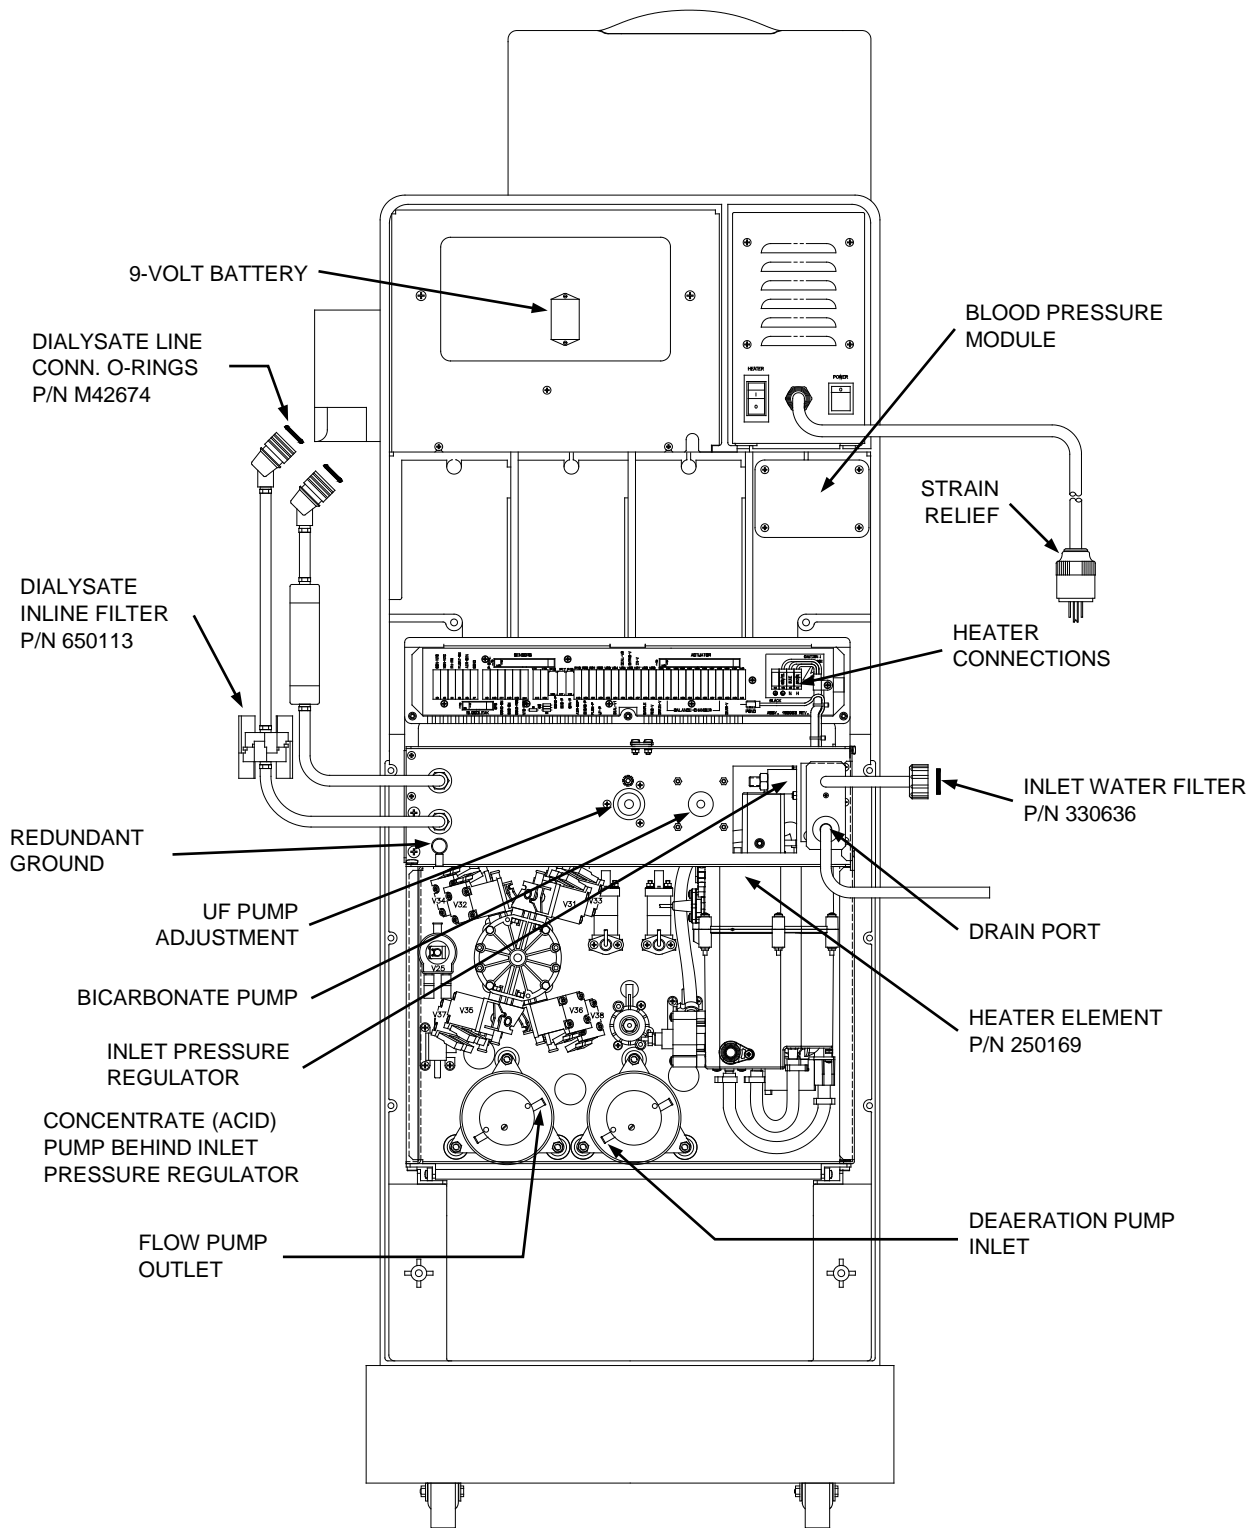

Figure 2. 2008T Hemodialysis System, Rear View.
1. Inlet Water Filter in the inlet connector of the water supply (See Figure 2, pg. 9).
3. Clean the Dialysate Inline filter (See Figure 2, pg. 9).
1. Remove power from the machine then check and tighten the 8-pin heater connections next to the distribution board (See Figure 2, pg. 9). Check heater block AC connections for signs of arcing or melting.
5. At the strain relief, locate the black, white and green wires from the power cord (inside the power supply chassis). Follow the black and white wires to the main power switch. Attached to the main power switch are four (4) wires (2 black and 2 white). Look for loose connections, cracked insulation, and signs of overheating, such as discolored or melted insulation. Replace wires with Power Supply Wire Kit (part number 190411).
7. With a digital multimeter, measure the resistance between the round (ground) pin on the power plug and the redundant ground terminal on the machine (See Figure 2, pg. 9). Verify that the resistance is less than 0.2 ohm. If the value is above 0.2 ohm, measure the internal resistance of your meter by shorting the leads together, then subtract this value from the resistance measured between the power plug ground pin and the redundant ground terminal on the machine to obtain the true ground resistance.
8. Record the measured value on either the Six (6) Month Preventive Maintenance Checklist or the Annual/4000 Hour Preventive Maintenance Checklist depending upon which is being performed.